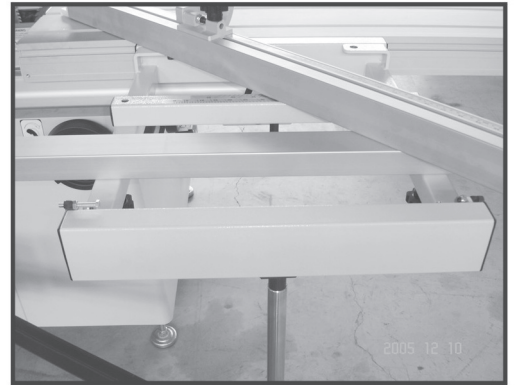

Fig. 44
1. Install the crosscut fence to the forward 90° stop (Fig. 44) and lock it in place.
Note : Drop the crosscut fence in the center stud hole and rotate it to the 90° stop. Check to make sure the fence is at 90° and adjust it. (Fig. 44)